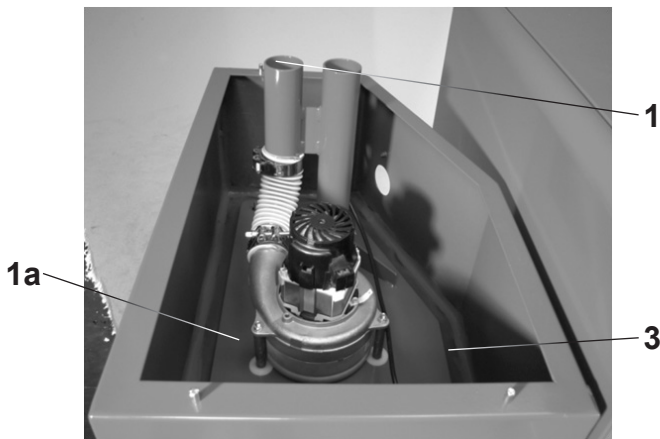

Fig. 13
1. Disconnect conveyor hoses (1, Fig. 13) and remove the suction module (1a).
3. Check/ clean the seal between the suction module and the pellet hopper (3)